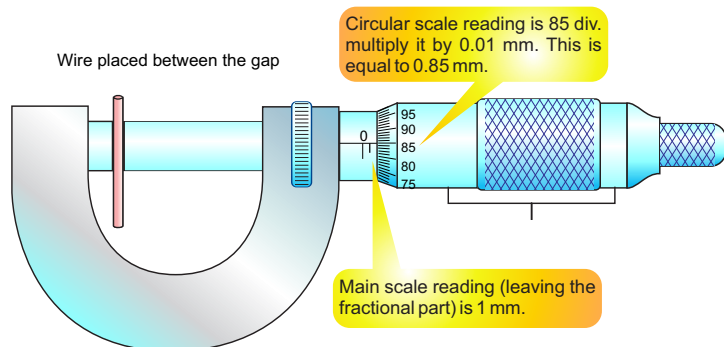

Figure 1.11: Measuring the diameter of a wire using micrometer screw gauge.
- (iii) Open the gap between stud and spindle of the screw gauge by turning the ratchet in anti clockwise direction. Place the given wire in the gap as shown in figure 1.11. Turn the ratchet so that the object is pressed gently between the studs and the spindle.
Diameter of the wire (figure 1.11)